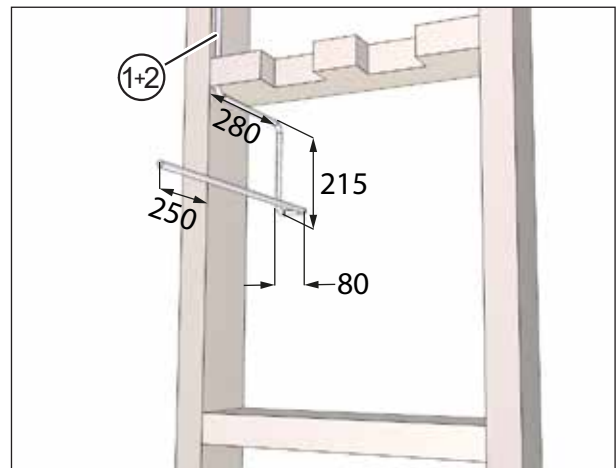

Fig. 47: Running the connecting cables, dimensions in millimetres
- ▶ Run the mains cable (item 1 in Fig. 47) and the control cable, if required (item 2 in Fig. 47). The cables should extend roughly 250 mm beyond the wall.